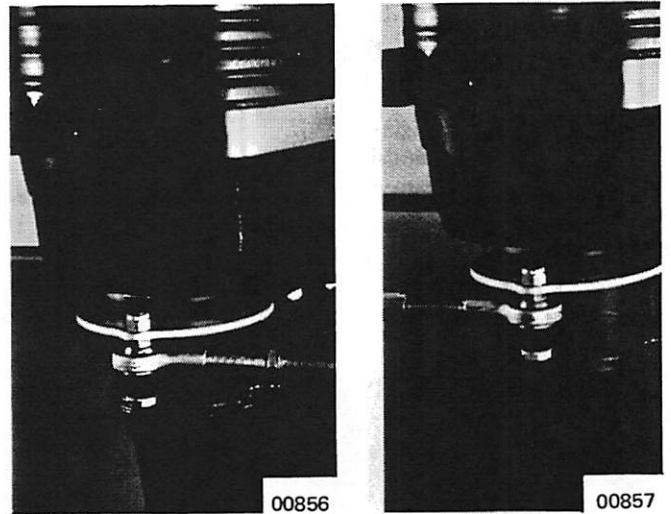

Figure 9.
1. Turn the 16" (40.64cm) link rod extension bar all the way onto the steering link rod of right (starboard) ball joint assembly (one with stop nut threaded on). (Refer to Figure 9 throughout.)